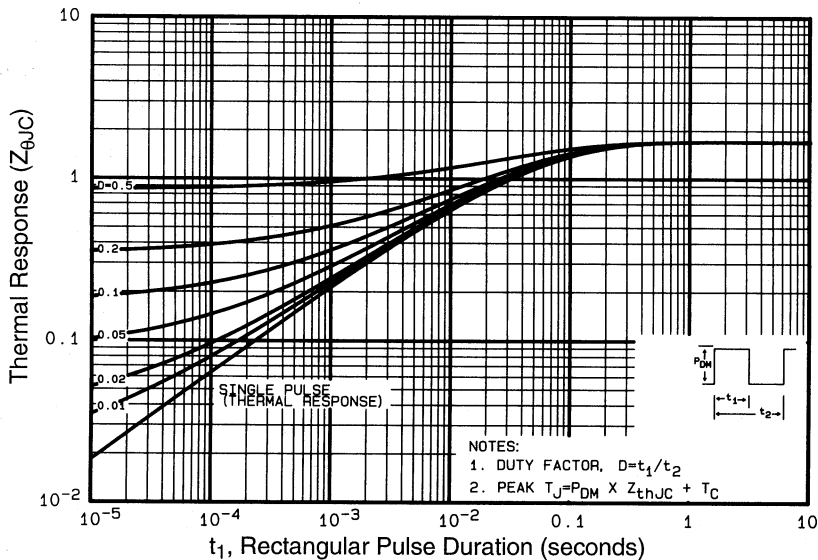

Fig 11. Maximum Effective Transient Thermal Impedance, Junction-to-Case
- ① Repetitive rating; pulse width limited by max. junction temperature. (See fig. 11)
- ② $V_{DD} = 25V$, starting $T_J = 25^\circ\text{C}$, $L = 260\mu H$